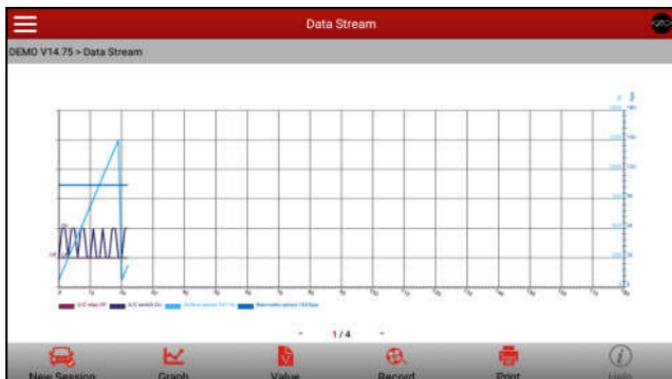

Fig. 4-33
- ✓ **Combine** – this option is mostly used in graph merge status for data comparison. In this case, different items are marked in different colors. See Fig. 4-33.